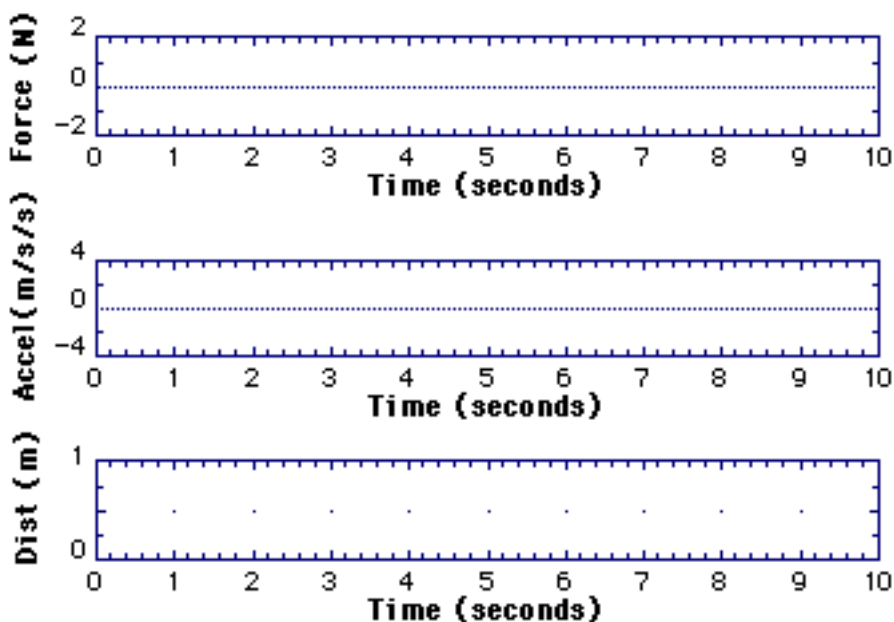

Figure 4. Force/Accel 1 graph format for Activity 2
- **Open...** the file **FORCE/ACCEL 1** in the **Lab 2** folder. The graphs in Figure 4 should appear on the screen.